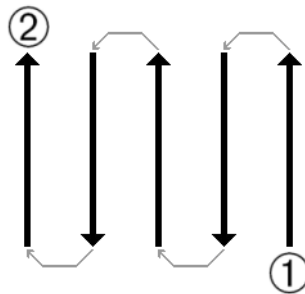

Figure 40: Given manner
Figure 40 shows all different ways of scanning in a scheme. The measurement starts at your starting point ① and ends at point ②.